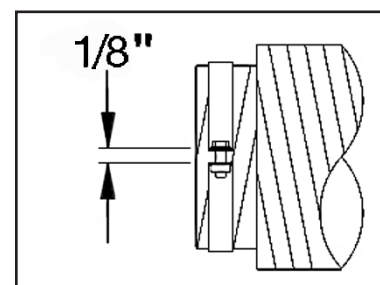

Figure 5
8. Tighten the inner pipe clamp bolts until both clamp halves are within $\frac{1}{8}$ " of each other at each end. (See Figure 5)